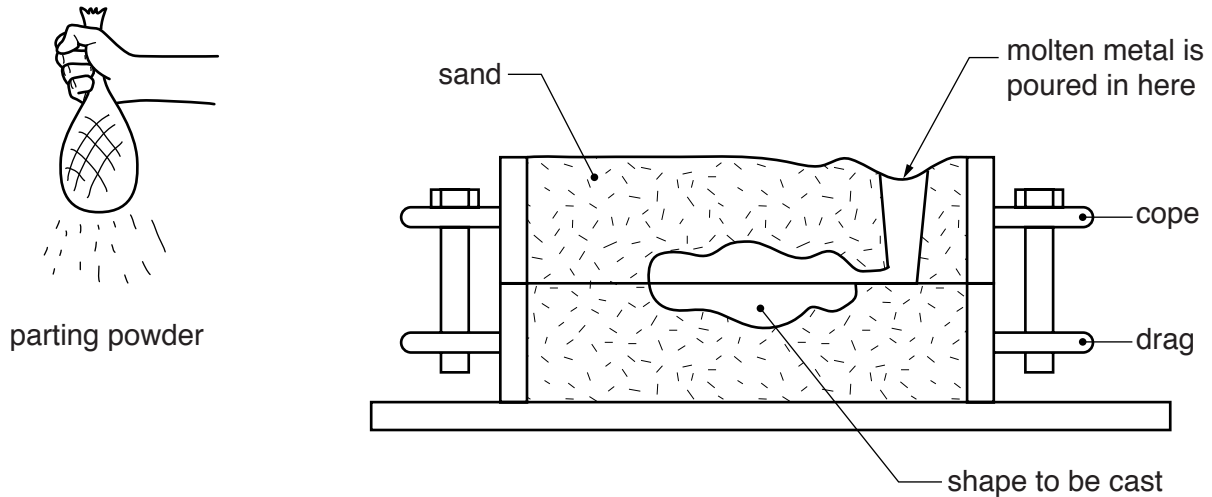

Fig. 4
- 4 Fig. 4 shows a sand casting mould that has been prepared ready for the molten metal to be poured in.